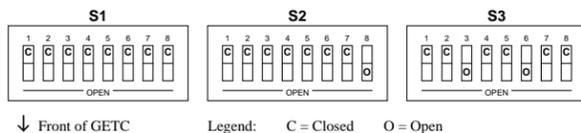

Figure 9 - Switch Settings for Personality Programming Mode
2. Set the GETC dip switches S1, S2, and S3 for the programming mode as shown in Figure 9.